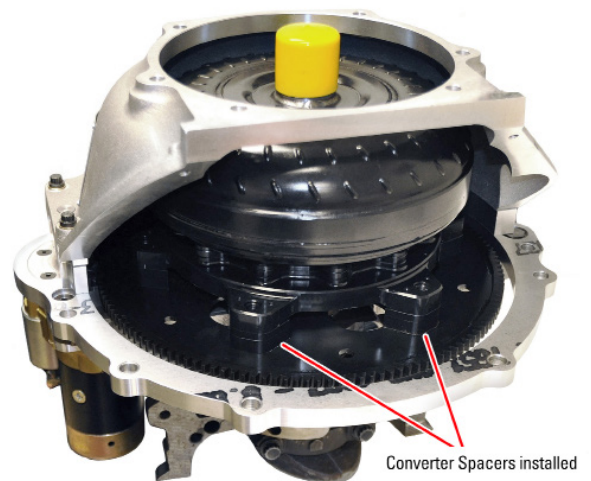

**Figure 5: Complete assembly**
**Step 6:** The transmission locates via the dowel pins pressed into the Adapter Plate. After installing the Torque Converter (#14) in the transmission, slide the Bellhousing (#11) over the dowel pins - the pilot on the Torque Converter will locate inside the Crankshaft Adapter. Secure the transmission to the engine using the short Bellhousing Bolts (#12) – short bolts include five (5) 1.500" long and one (1) 1.750" long counterbore bolts. See Figure 5 (right) for completed assembly.